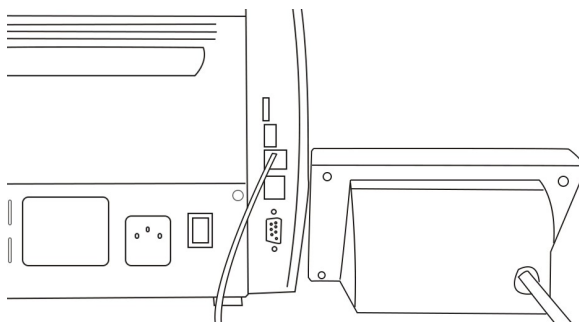

Figure 85
1) Plug the RJ12 connector for the external monitor into the RJ12 interface on the back of the machine, as shown in Figure 85: